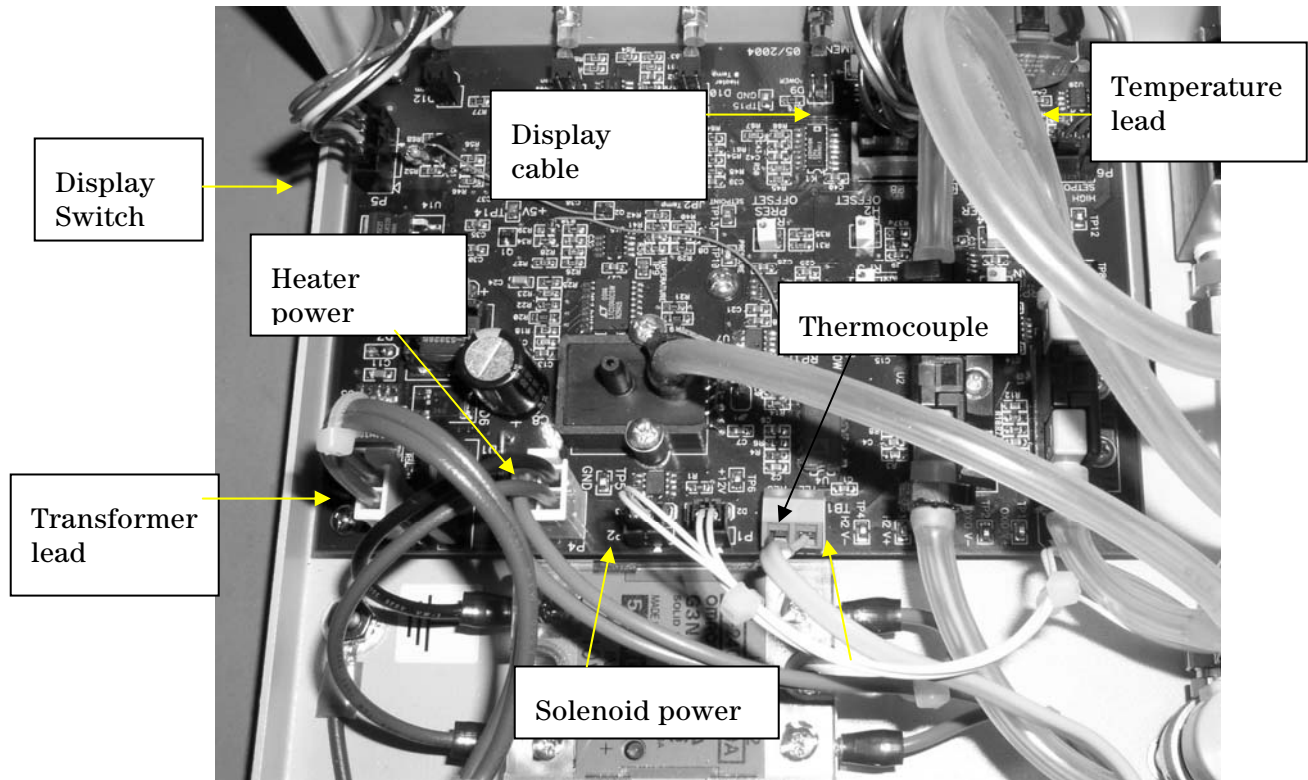

Figure 1 Electrical connections on the PCB
5. Remove all electrical connections (8 total) on the PCB (see **Figure 1**). Make note of where each quick connect attaches to the PCB, as these connections must be properly re-established in the new PCB later.